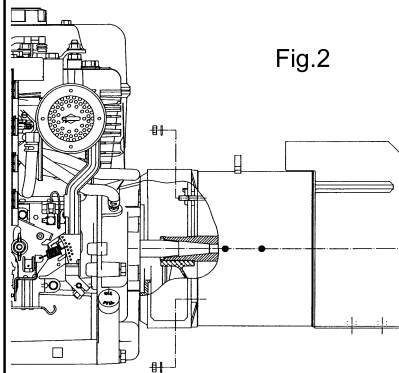

Fig.2
-) lock the alternator into the cover by fixing the four M8 nuts onto the bolts, applying a tightening torque of  $16 \pm 7\%$  Nm (figure 2)